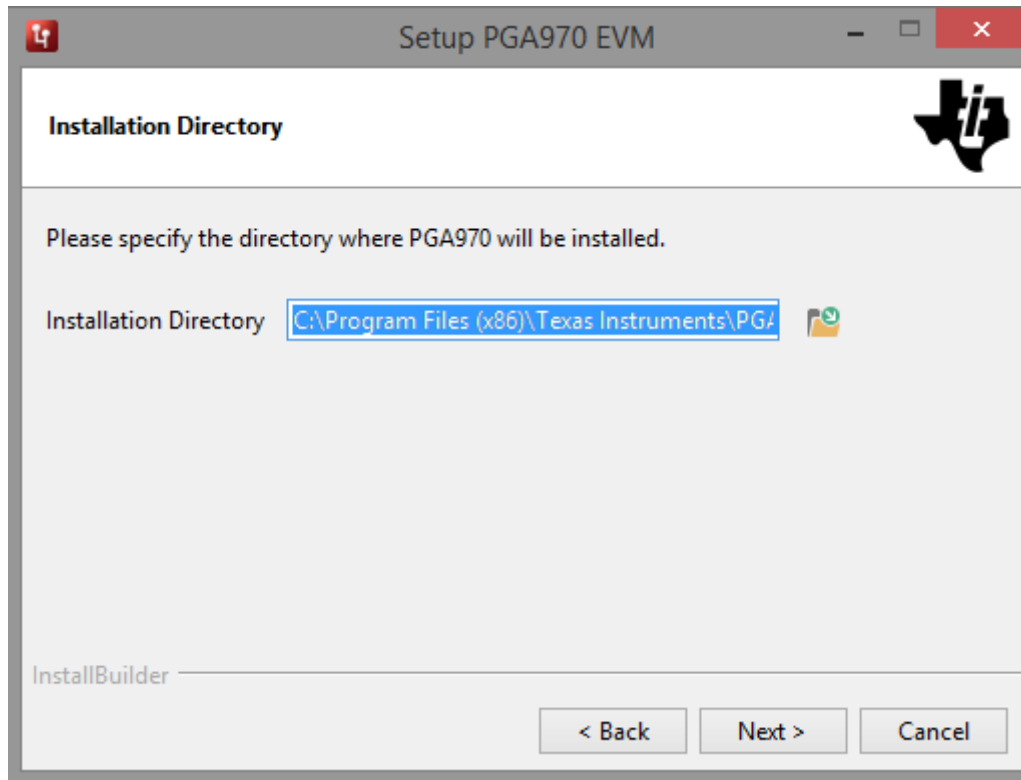

Figure 1-6. Destination Directory
3. Set the destination directories for the PGA970 GUI installation and click the Next» button as shown in Figure 1-6.